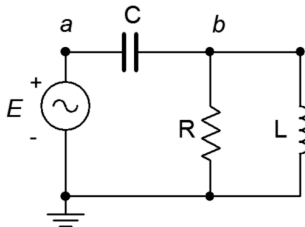

Figure 4.21
36. In the circuit of Figure 4.21, determine a value for L such that the magnitude of v_b equals $v_a/2$ if the source frequency is 10 kHz, $R = 2.7 \text{ k}\Omega$ and $C = 10 \text{ nF}$.
37. Given the circuit of Figure 4.21, determine a value for C such that the source current is in phase with the source voltage. The source frequency is 1 kHz, $R = 68 \text{ }\Omega$ and $L = 22 \text{ mH}$.